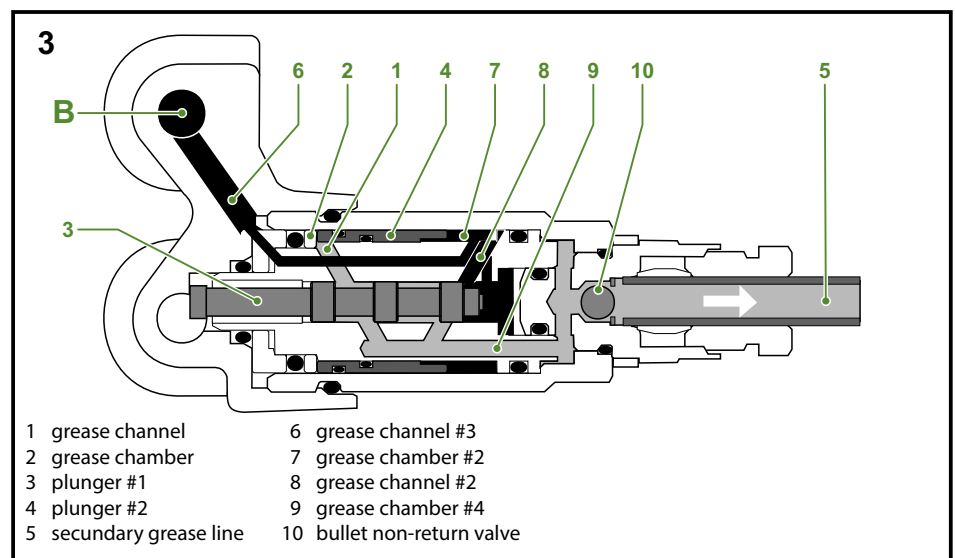

fig. 3.10
In this phase the same happens as in phase 2. However chamber (fig. 3.10/7) is now filled with grease. Piston (4) is pushed to the right while chamber (2) is filled. The complete grease volume of chamber (fig. 3.10/7) is pressed through channel (8), piston (3), channel (9) and the secondary grease line (5) to the grease points. Sphere (10) in the non-return valve is pushed back to clear the path to the secondary grease line.